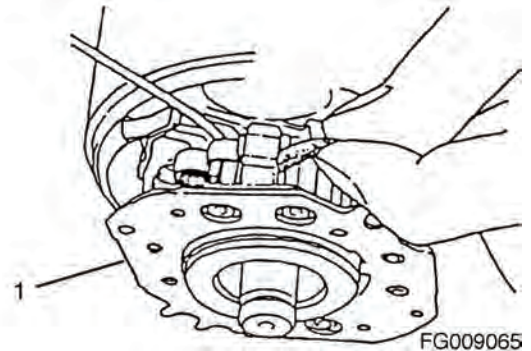

Figure 343
4. Pull the brush springs up using a brush spring puller. On the negative (-) side, bring the brush spring into contact with the side of the brush for lifting from the commutator surface. On the positive (+) side, remove the brush from the brush holder assembly (1, Figure 343).